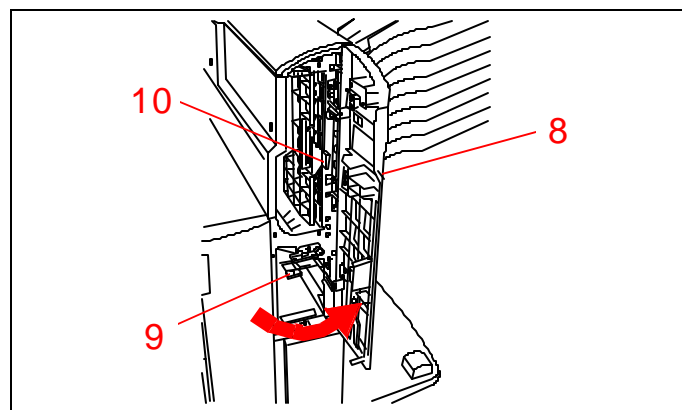

Figure 17
8. If the jam is behind the right front door, see Figure 17. Swing open the right door.